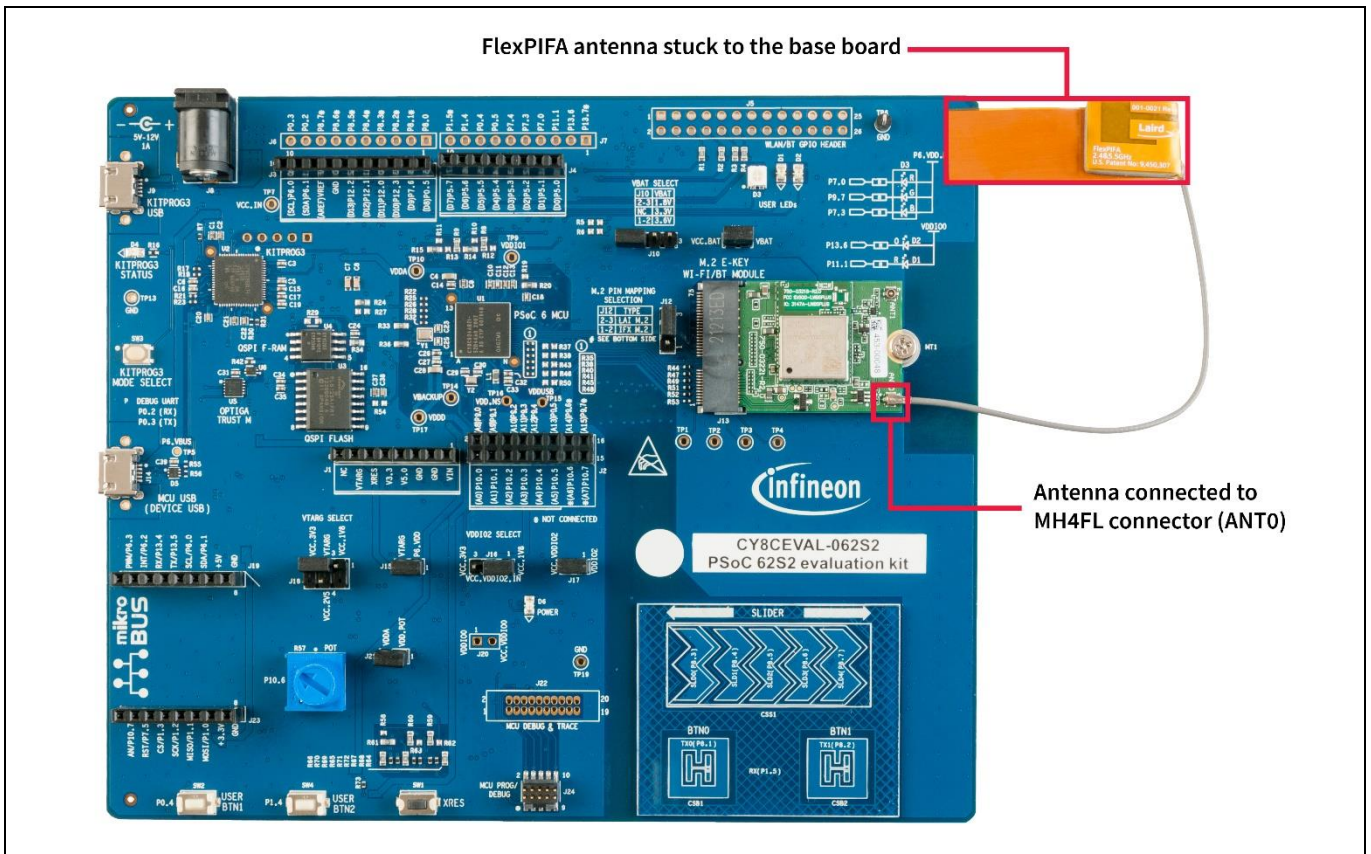

Figure 9 PSoC™ 62S2 evaluation board + Sterling-LWB5+ M.2 module from Laird Connectivity: Antenna connection
2. The FlexPIFA antenna from Laird Connectivity comes with a 3M adhesive. You can either stick the antenna to the base board as shown in **Figure 9** or leave the antenna hanging freely.